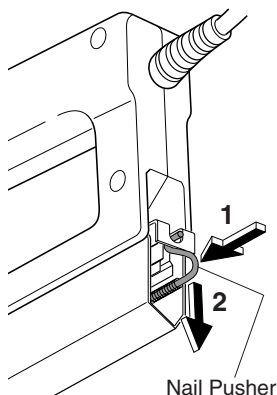
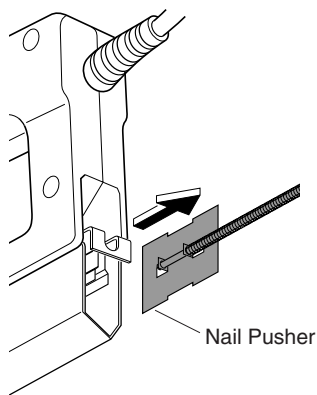

Figure 2
Figure 3
3. Remove nail pusher from nail chamber. Access nail pusher at rear of nail chamber. Push end of nail pusher in and down to release it (see Figure 2). Pull nail pusher from nail chamber (see Figure 3).